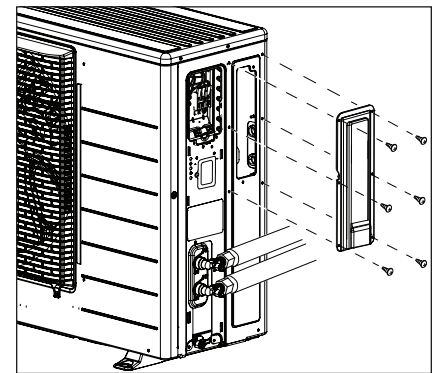

Figure 23 - Remove the third cover to gain access to the IF board.
- 6** Using a Phillips screwdriver, remove the six screws securing the third cover (remote/IF board) to the unit and remove the cover. See Figure 23.